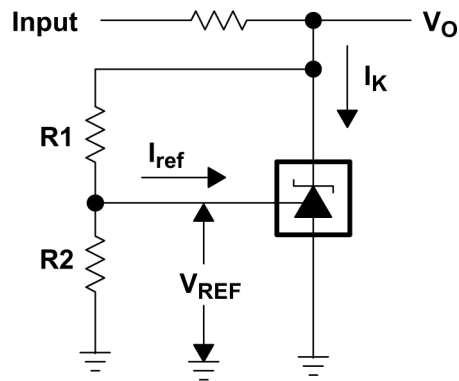

图 6-2. Test Circuit for $v_{KA} > V_{REF}$, $V_O = V_{KA} = V_{REF} \times (1 + R1/R2) + I_{ref} \times R1$
- (3) The dynamic impedance is defined as $|z_{ka}| = \frac{\Delta V_{KA}}{\Delta I_K}$. When the device is operating with two external resistors (see 图 6-2), the total
- (3) Full temperature ranges are -40°C to 125°C for TLV431Q, -40°C to 85°C for TLV431I, and 0°C to 70°C for TLV431C.
- (4) dynamic impedance is defined as $|z_{ka}| = \frac{\Delta V_{KA}}{\Delta I_K}$. When the device is operating with two external resistors (see 图 6-2), the total